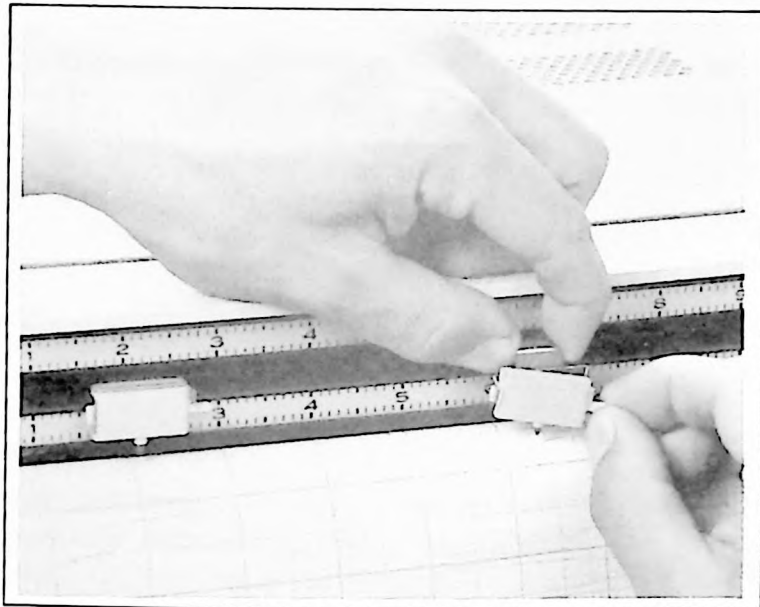

Figure 5-9. Disposable Pen Installation
- Install disposable pen in pen holder with pen tip pointing downwards and grasping projection to right (see Figure 5-9).